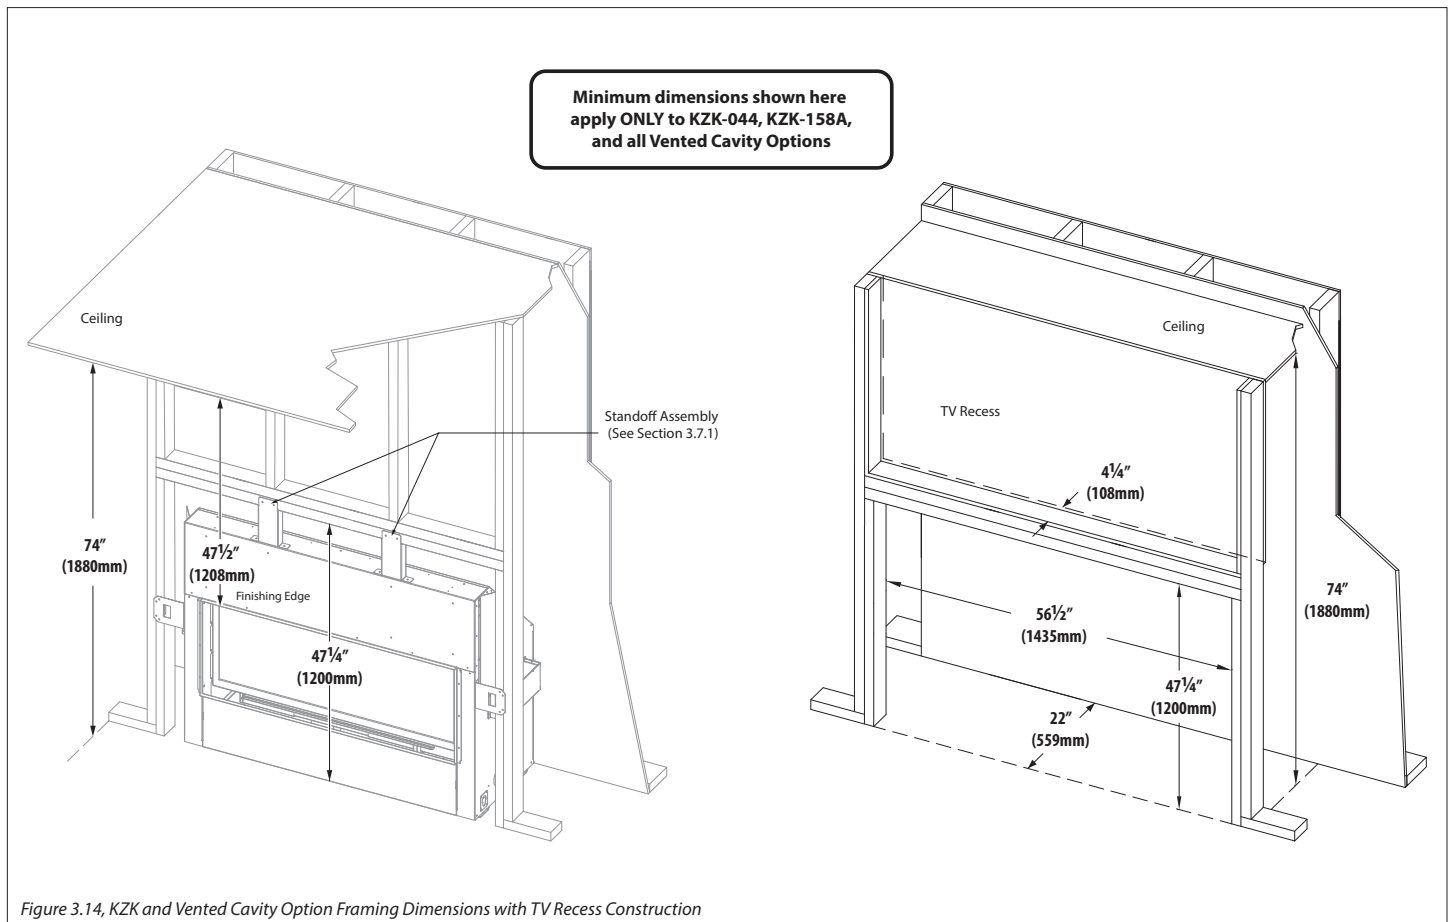

Figure 3.14. KZK and Vented Cavity Option Framing Dimensions with TV Recess Construction
- Minimum rough framing dimensions for KZK-044, KZK-158A, and vented cavity installation are shown below in Figure 3.14. These dimensions should allow for wall covering thickness and fireplace facing materials. Adjust rough opening size as necessary to maintain minimum clearance requirements.